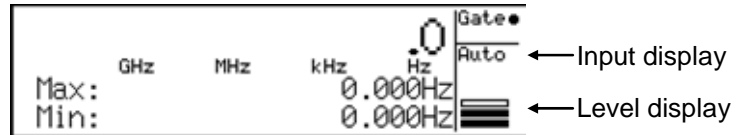

Figure 4.2.1-2 Level display
The level display of the (4) State display in Figure 4.2.1-1 is described below (see Figure 4.2.1-2).